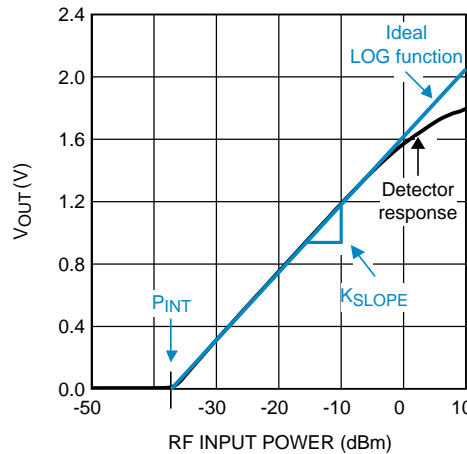

Figure 45. Ideal Logarithmic Response
- P_{INT} is the power level in dBm at which the line intercepts $V_{OUT} = 0$ V (see Figure 45).